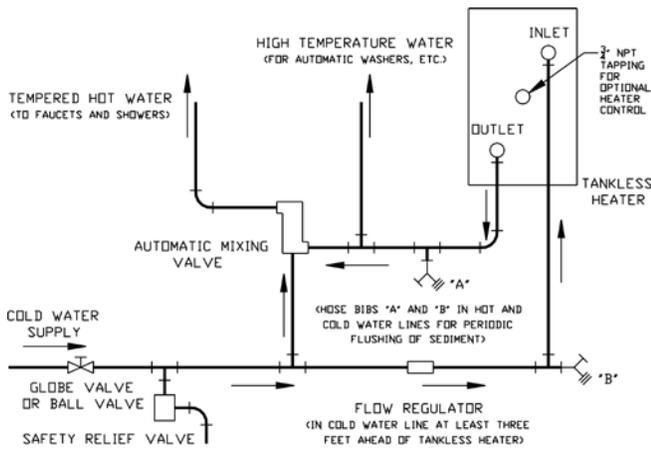

Figure 41: Schematic Tankless Heater Piping
1. Hot Water Boiler/Tankless Coil(s) – Tankless coils, mounted into the side of the boiler(s), have been used successfully for many years and may be used in single and multiple boiler applications. When a boiler is arranged with tankless coils, it is not recommended that outdoor reset be used, unless there are controls in place to prevent overheating of the space heating zones. Figure 41 depicts
O. CONNECT TANKLESS HEATER PIPING as shown in Figure 41. See Table V for Tankless Heater Ratings.
If flow through the heater is greater than its rating, the supply of adequate hot water may not be able to keep up with the demand. For this reason a FLOW REGULATOR matching the heater rating should be installed in the cold waterline to the heater. Refer to Figure 41 for piping recommendations. The flow regulator should preferably be located below the inlet to the heater and a minimum of 3 feet away from the inlet so that the regulator is not subjected to excess temperatures that may occur during “off” periods when it is possible for heat to be conducted
All water contains some sediment which settles on the inside of the coil. Consequently, the heater should be periodically backwashed. This is accomplished by installing hose bibs as illustrated in Figure 41 and allowing water at city pressure to run into hose bib A, through the heater, and out hose bib B until the discharge is clear. The tees in which the hose bibs are located should be the same size as heater connections to minimize pressure drop.